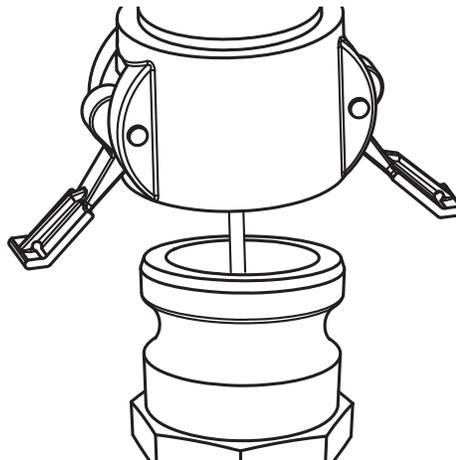

Figure 3
- 2.) Open the female cam lock handles, and align the connection components (Figure 3).